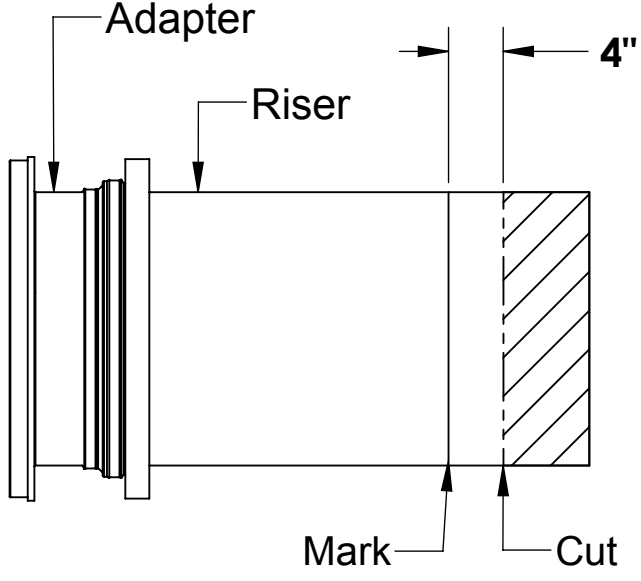

Figure 3
7. Whether the riser needs to be cut or not, make another mark with the silver marker on the sidewall of the riser a distance of 3 INCHES above the edge just cut. If you did not make a cut (meaning your riser height + dimension from step 5 line was beyond the bottom edge of your riser), still mark the sidewall of the riser 3 INCHES above where your riser height + dimension from step 5 line would have been. DO NOT cut this new line. Once the riser is installed into the main unit, this new line will end up at the top of the gasket and will aid in re-assembly. See Figure 3.